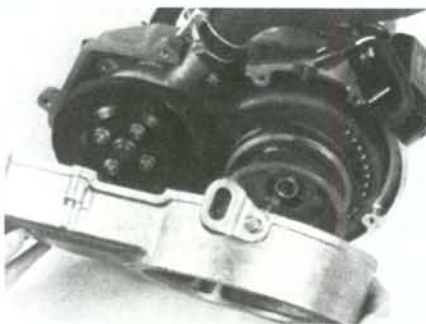

Fig. 22—Removing magneto housing cover on liquid-cooled engines.
**LIQUID-COOLED ENGINE.** With engine removed as previously outlined, remove the screws retaining the outside magneto cover and lift off cover as shown in Fig. 22. Using a holding spanner as shown in Fig. 3, loosen flywheel nut, then remove the three cap screws securing starter pulley and water pump drive pulley to flywheel. Remove pulleys and belt, then remove flywheel using a suitable screw puller as in Fig. 24.